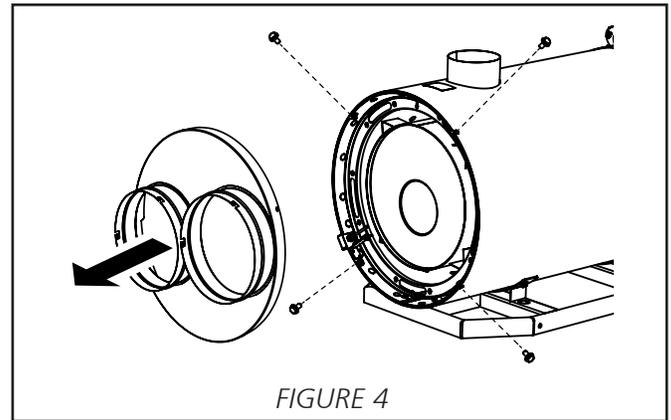

FIGURE 4
1. Remove the air ducting cone by removing the screws which secure it to the heater. See Figure 4.